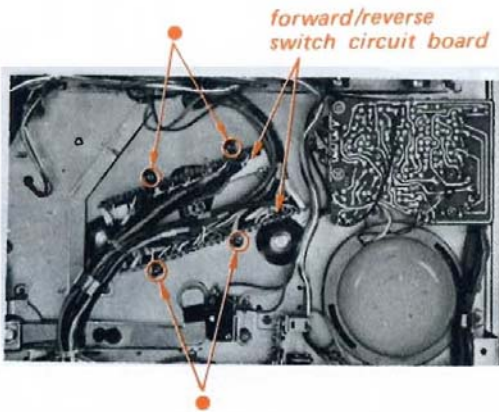

Fig. 8-10 Forward/Reverse switch circuit board removal
(1) The forward/reverse switch circuit boards can be now removed by unscrewing respectively two screws marked with ● in Fig. 8-10.